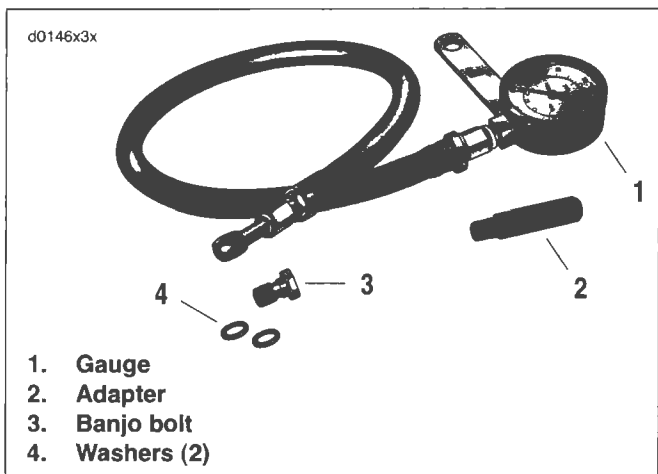

Figure 3-14. Oil Pressure Gauge
3. See Figure 3-14. Install adapter (2) in oil pressure switch mounting hole. Tighten adapter until snug.
4. Assemble banjo bolt (3), washer (4), oil pressure gauge (1) banjo fitting and second washer onto adapter and tighten until snug.